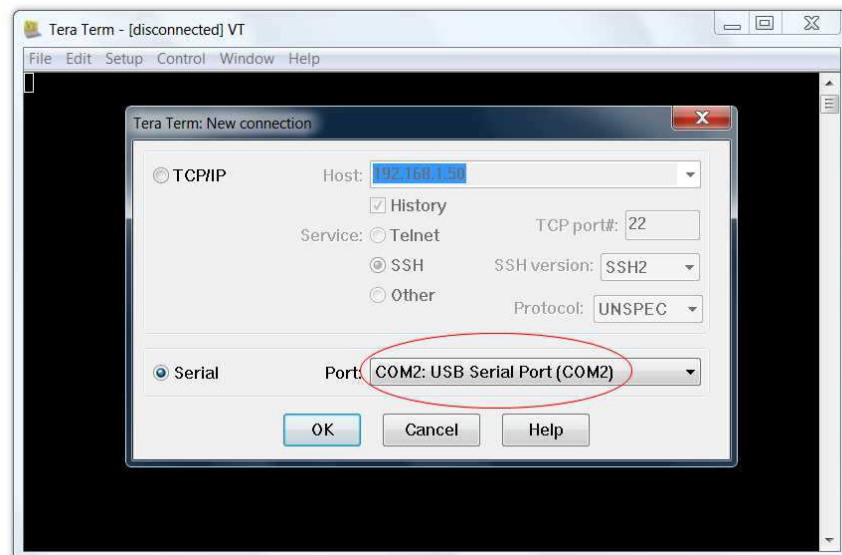
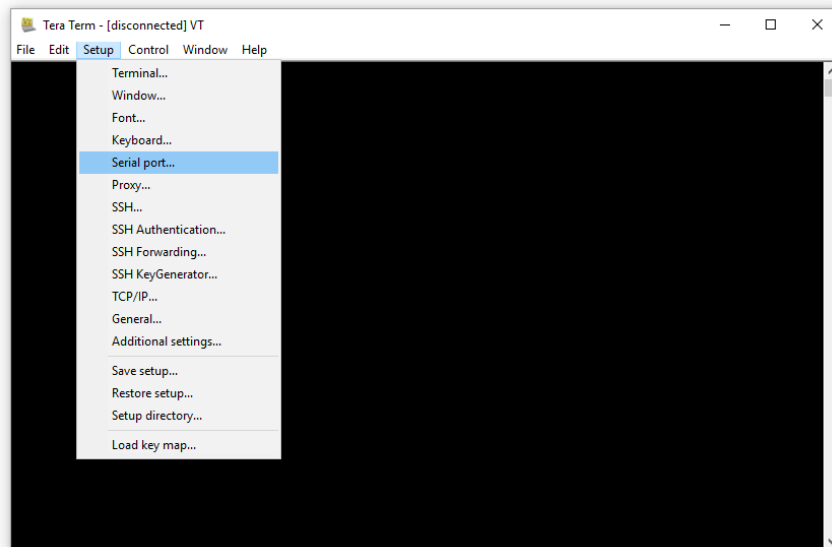
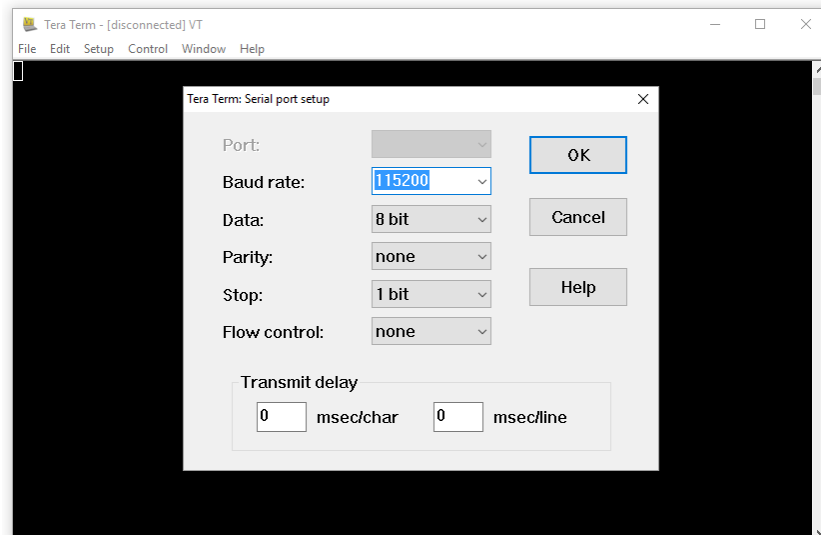

Fig.1.0.1
Fig.1.1.0
Fig.1.1.1
3. Configure TeraTerm connection to this port – Fig. 1.0.1, and check correct port settings in TeraTerm – Fig. 1.1.0 and Fig 1.1.1